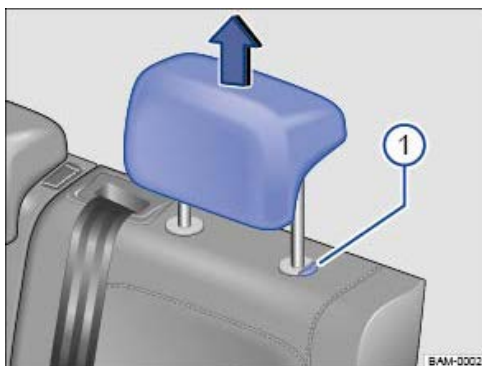

Fig. 101 Removing the rear head restraint.
- Pull the head restraint out fully while pressing the button → Fig. 101 .
- Press and hold the button → Fig. 101 and push the head restraint downwards.